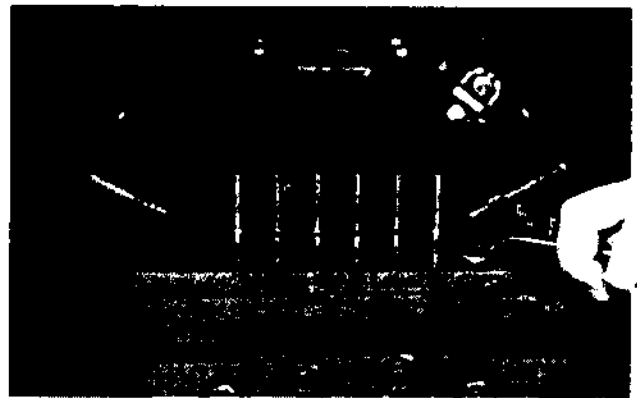

Figure 31
4. Remove the terminal plate mounting bolts (Figure 31). Lift the plate and gasket and disconnect the four hermetic terminal spade connections (Figure 32).